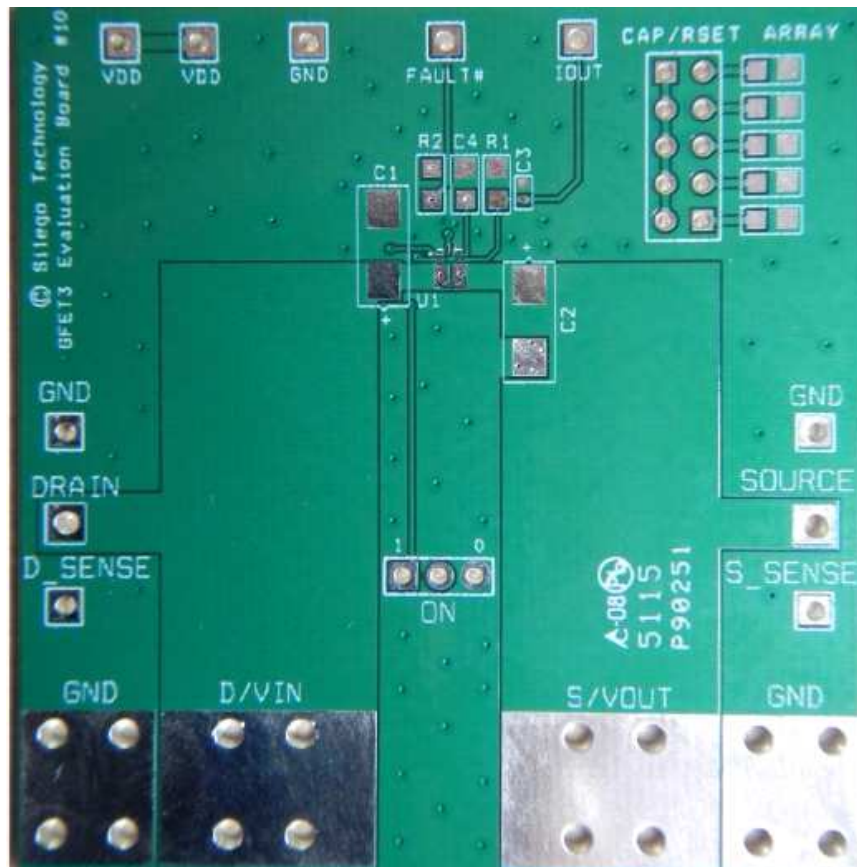

Figure 19. SLG59M1713V Evaluation Board
2. Since the VIN and VOUT pins dissipate most of the heat generated during high-load current operation, it is highly recommended to make power traces as short, direct, and wide as possible. A good practice is to make power traces with an absolute minimum widths of 15 mils (0.381 mm) per Ampere. A representative layout, shown in Figure 19, illustrates proper techniques for heat to transfer as efficiently as possible out of the device;
A GreenFET Evaluation Board for SLG59M1713V is designed according to the statements above and is illustrated on Figure 19. Please note that evaluation board has D_Sense and S_Sense pads. They cannot carry high currents and dedicated only for $R_{DS(ON)}$ evaluation.